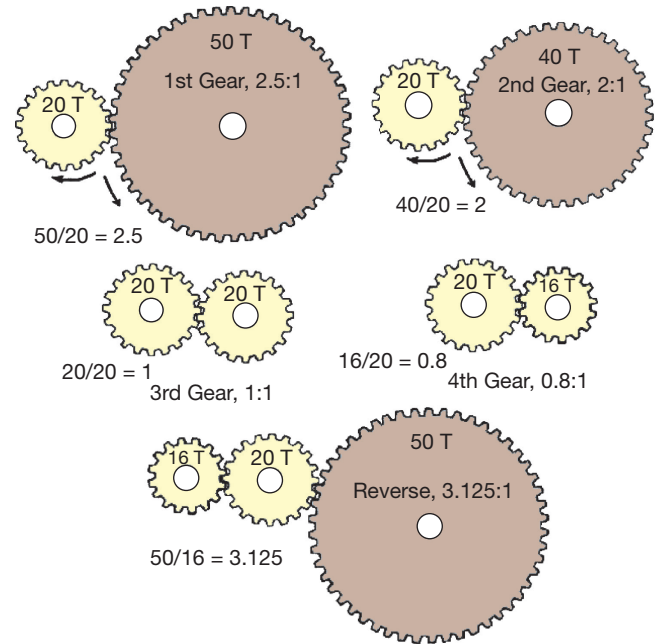

FIGURE 1-14 The gear ratio is determined by dividing the number of teeth on the driven (output) gear by the number of teeth on the driving (input) gear.
- The driving gear will turn four times for each revolution of the driven gear. This results in a speed reduction and a torque increase. The speed of the output will be 4 times slower than the input speed but, the output torque will be four times more than the input torque. The higher the ratio number, the lower the gear ratio. A 5:1 ratio is higher numerically, but, in terms of speed of the driven gear, it is a lower ratio than 4:1. ● **SEE FIGURE 1-14.**